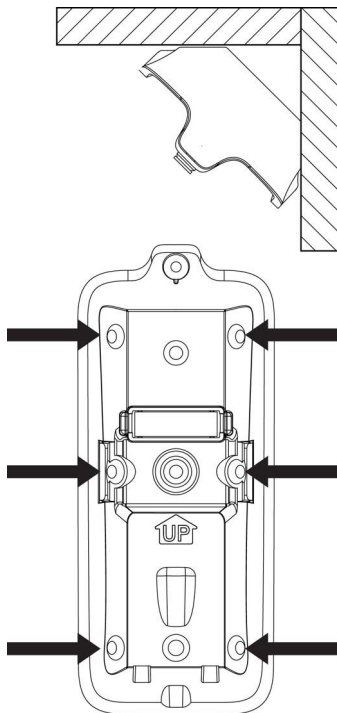

Figure 5 Corner mount configuration
- To mount in a corner, see Figure 5.